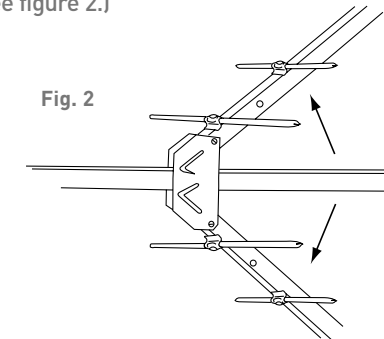

Fig. 2
3. Unfold the reflector booms until they lock into place. (See figure 2.)